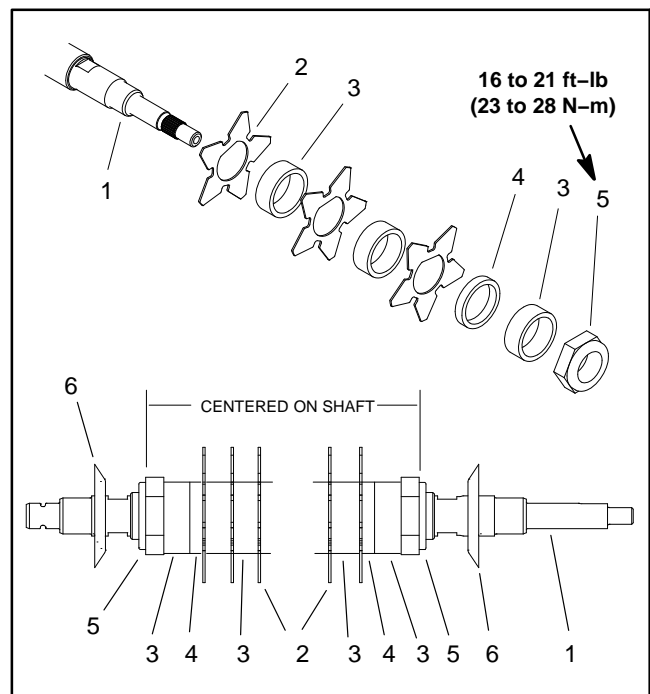

Figure 10
### Disassembly (Fig. 10)
5. Remove lock nut from either end of the shaft (Fig. 10).
### Assembly (Fig. 10)